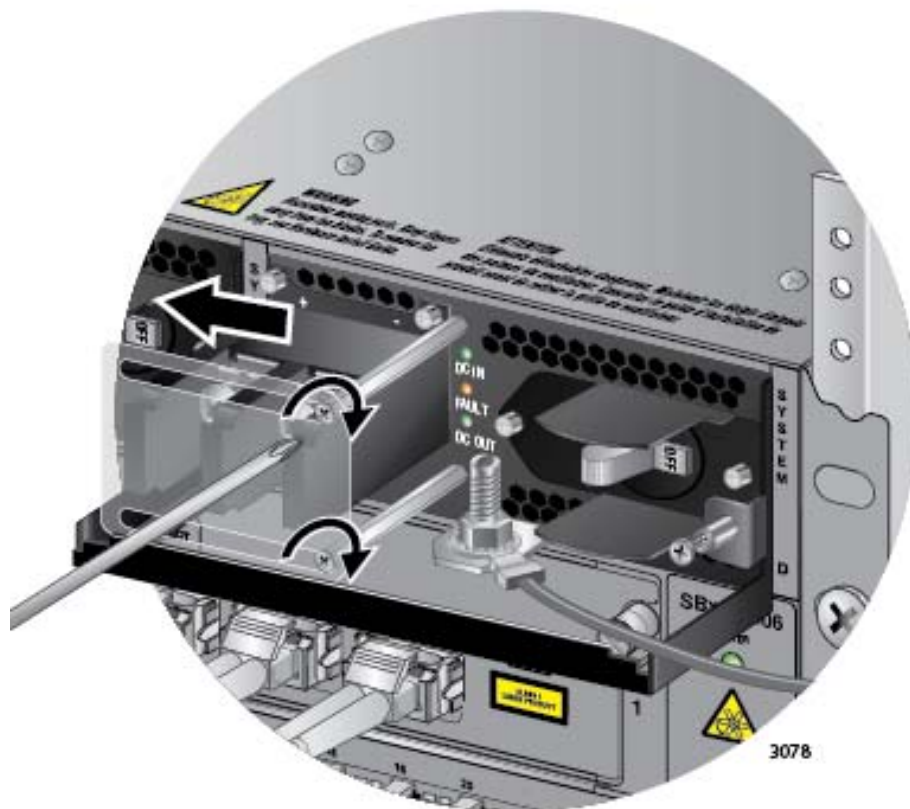

Figure 176. Closing the Plastic Cover
8. Slide the plastic cover to the left and lightly tighten the two screws to secure it in place. Refer to Figure 176 on page 292.